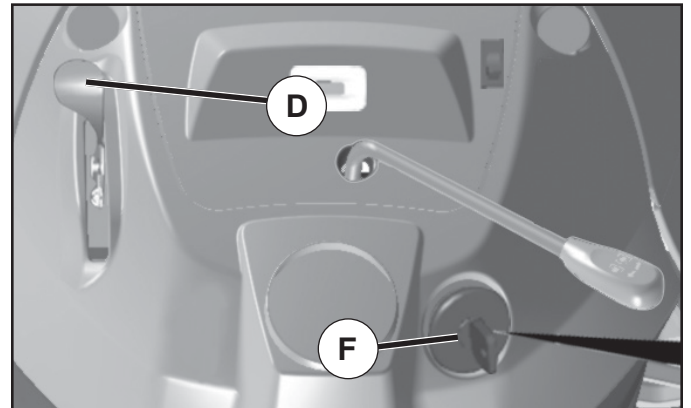

Fig. 6
TO USE THROTTLE CONTROL (D) (See Fig. 6)